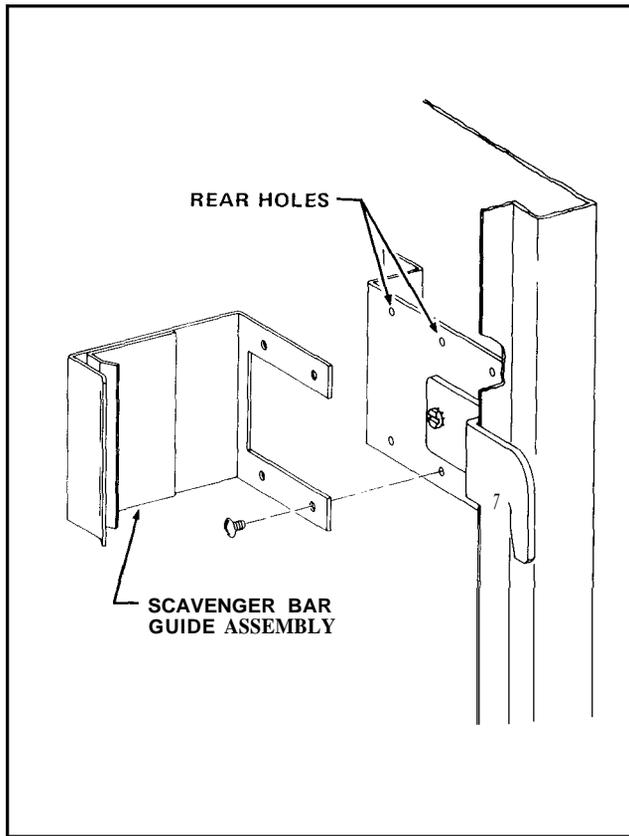

FIGURE 5-7
51. Remove four Screws and the Scavenger Bar Guide Assembly from the front holes of the Bracket on the right inside wall of the Cabinet and mount the Scavenger Bar Guide Assembly in the rear holes. See Figure 5-7.